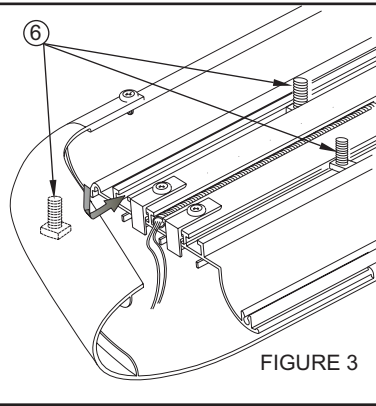
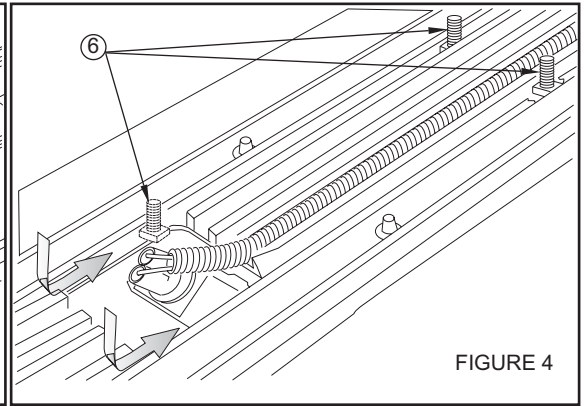

FIGURE 3
FIGURE 4
- STEP 3. Insert square head bolts as shown ( 4 per slot, 8 per board). **SEE FIGURES 3 AND 4.**
**NOTE:** For lighted boards, run wiring harness prior to attaching board to brackets (refer to Step 6). **SEE FIGURES 3 AND 4.** Run longer wire harness on passenger side.
**HINT:** Molded Step Boards: For longevity, check rubber seals before installation. Rubber grommets around red and blue wires going into rear sockets, should be inserted and recessed about 1/4". **NOTE:** Remove bulbs and apply white grease into sockets and replace bulbs. Apply RTV Silicone where lights go into socket. Install lights and run wire loom as shown. **SEE FIGURE 4.** For Sure Grip Running Boards, run wire loom down center as shown. **SEE FIGURE 3.**